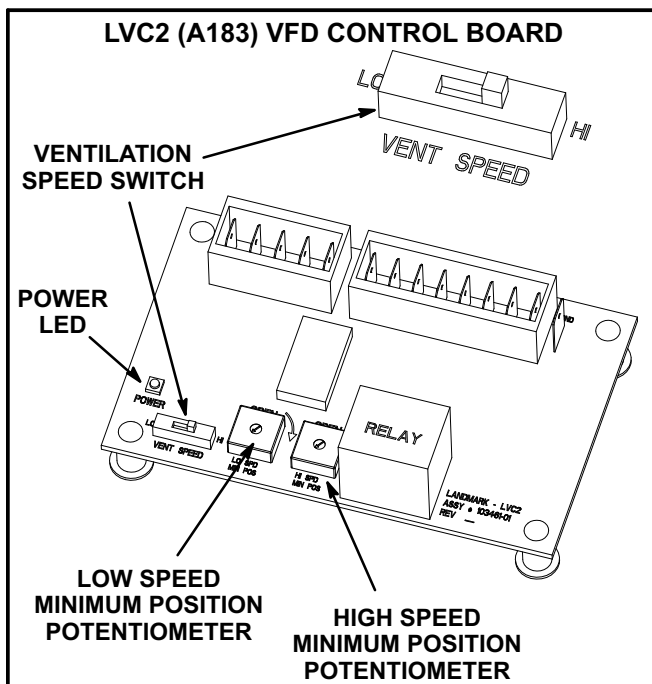

FIGURE 21
To save energy during ventilation, the blower speed can be set to low. This is accomplished by changing the ventilation speed switch on the VFD control board to “LO”. See figure 21.
To maintain required minimum ventilation air volumes when the unit is in the occupied mode, two minimum damper positions must be set. A high and a low speed potentiometer are provided on the VFD control board to adjust minimum damper position. See figure 21.
- 5- Check the power LED on the board. See figure 21.